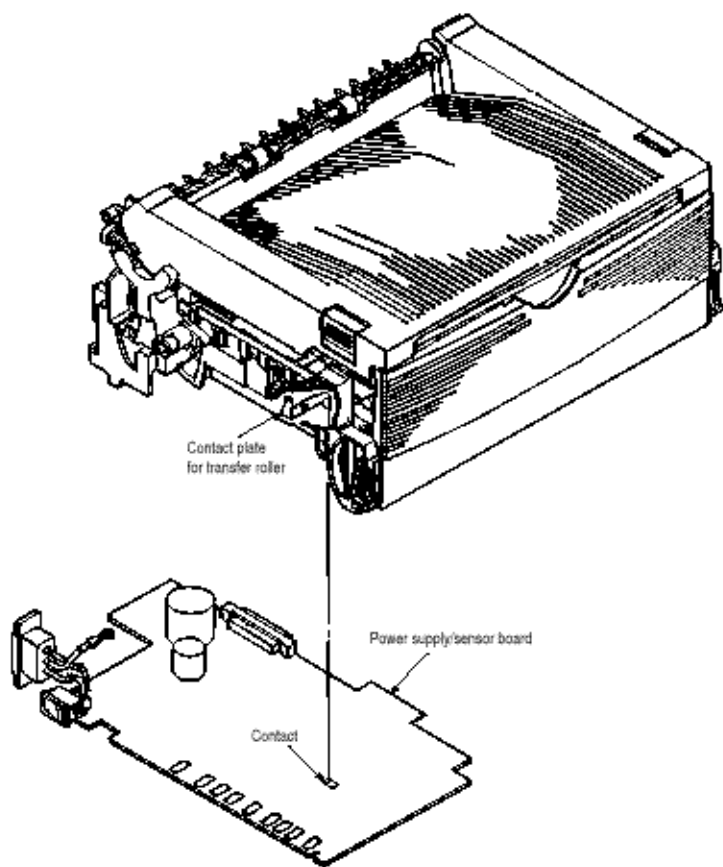

Figure 6-5
- Yes Is the contact plate of the transfer roller in contact with the contact assembly of the power supply/sensor board properly (see Fig. 6-5)?